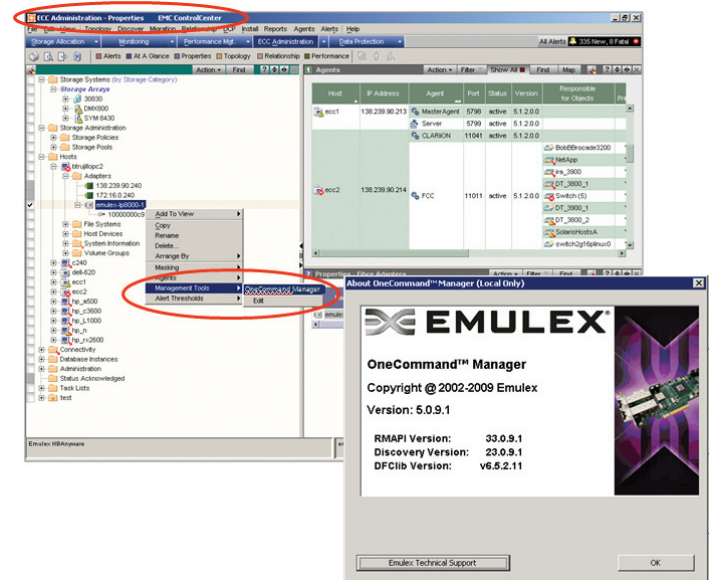

Figure 3 Single-pane integration with EMC ControlCenter.
- Integration with storage or systems management tools**—Emulex management instrumentation is based on open, standards-based interfaces and components, with the design goal of enabling integration into enterprise storage or server management solutions. This can be accomplished either at an application level or through the native application programming interface (API). The result is a single pane of management for all Emulex HBAs and UCNAs within the end-users' favorite storage or server management applications (see Figure 3).